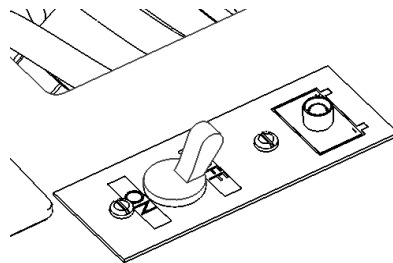
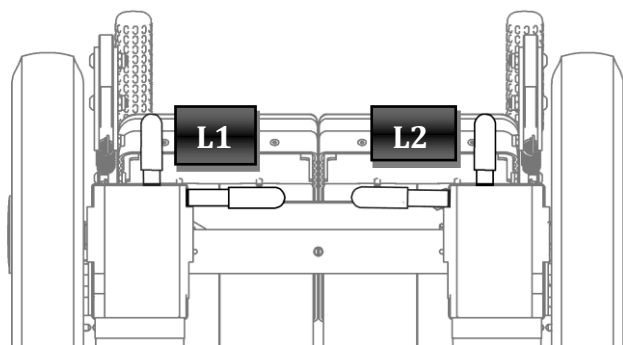
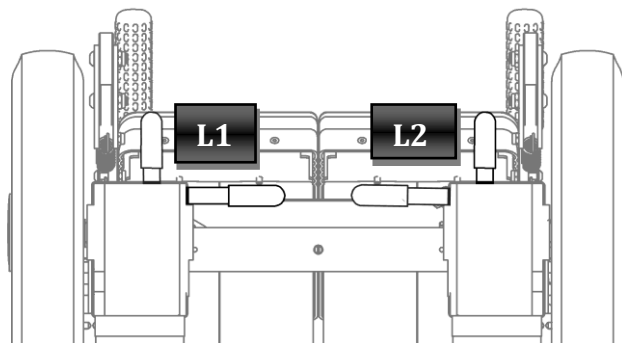

Figure 2
Figure 5
Figure 6
If you don't use the Pegasus Evo for a long time make sure you set the switch (I) OFF as shown in Figure 2. You should keep the Pegasus Evo in a place free from dust and moisture and away from heat sources.
Set the release engine lever located in the back of Pegasus Evo as shown in Figure 5. In this configuration, wheels are normally brake. Use the switch (I), see Figure 2, to turn on and turn off the Pegasus Evo.
Seeing Figure 5 use the button 6 to turn on the command console. Use button 4 and 10 to select the travel speed. Chosen level is shown by the indicator 9.
If you need to use the push mode use switch (I), see Figure 2 to turn off the Pegasus Evo and set the release engine lever as shown in Figure 6.